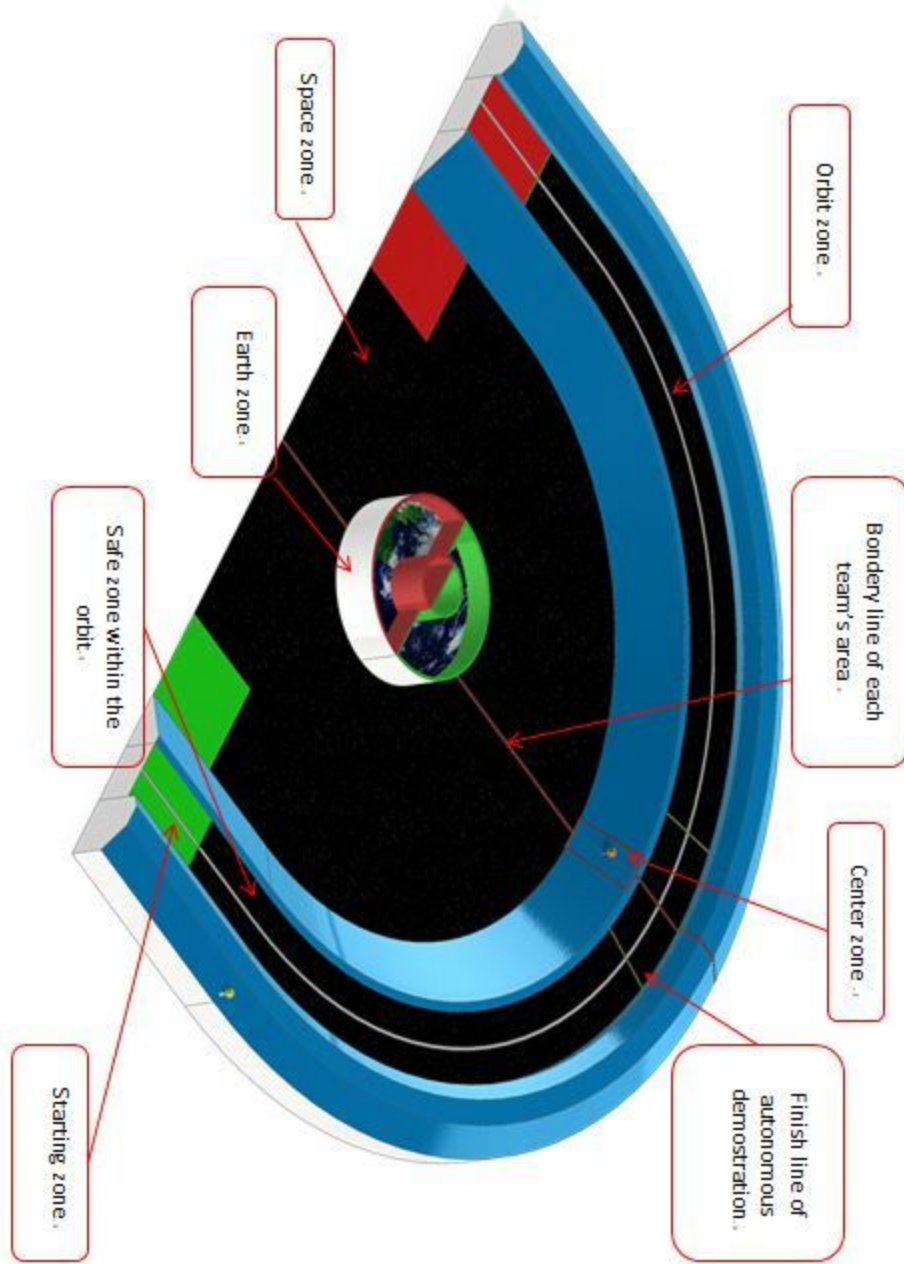

Figure 2. Game Field Description
1. The game field will consists of three zones: The outer orbit where the debris are present, the space across which the debris has to be transported and the earth which is the final destination for the debris. The detailed dimensions and views are given in Figure 2, 3 and 4.